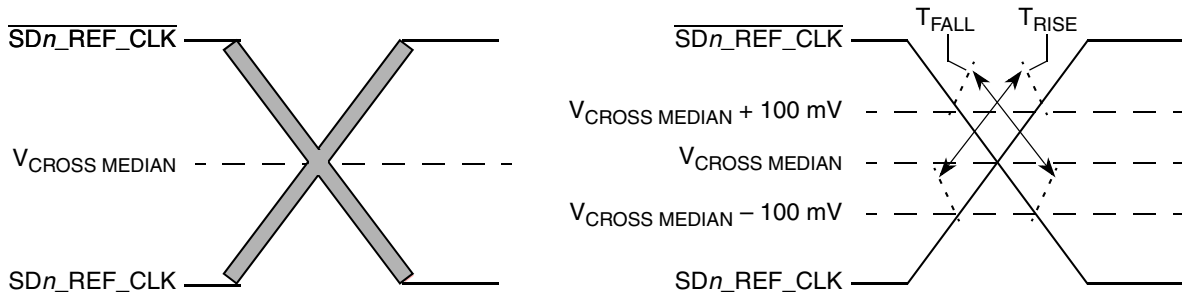

Figure 67. Single-Ended Measurement Points for Rise and Fall Time Matching
- Matching applies to rising edge rate for SDn_REF_CLK and falling edge rate for $\overline{\text{SDn\_REF\_CLK}}$. It is measured using a 200 mV window centered on the median cross point where SDn_REF_CLK rising meets $\overline{\text{SDn\_REF\_CLK}}$ falling. The median cross point is used to calculate the voltage thresholds the oscilloscope is to use for the edge rate calculations. The Rise Edge Rate of SDn_REF_CLK should be compared to the Fall Edge Rate of $\overline{\text{SDn\_REF\_CLK}}$, the maximum allowed difference should not exceed 20% of the slowest edge rate. See Figure 67.